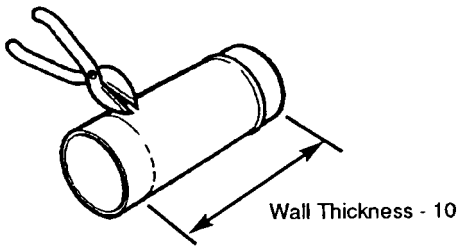

Fig. 63
5. Mark off the dimension, wall thickness - 10mm ( $\frac{3}{8}$  in), measuring from the beaded end of the duct and cut off the remaining length of the duct. Ensure that the cut is square and reasonably straight (Fig. 63).